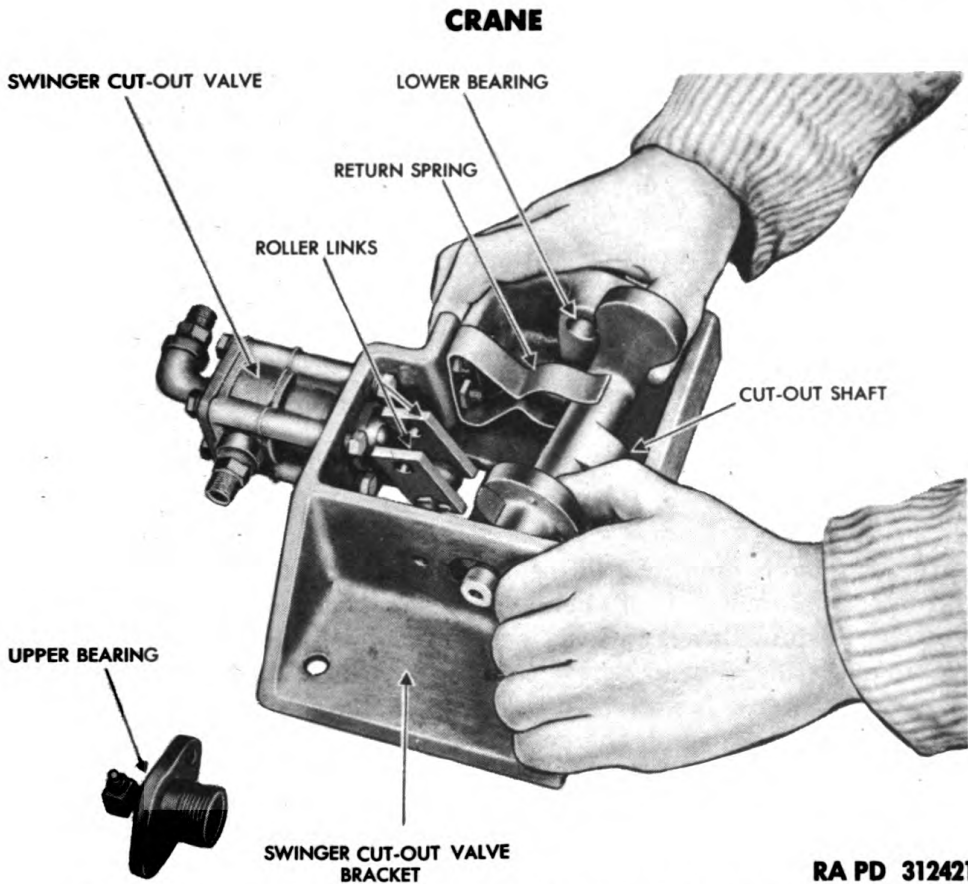

Figure 26 – Installing Shaft in Swinger Cut-out Bracket
(2) **DISASSEMBLE LINKAGE.** Remove two $\frac{1}{4}$ -inch bolts, nuts, and lock washers attaching linkage shaft upper bearing to swinger cut-out bracket. Pull bearing free of bracket, and lift out cut-out shaft. Remove two stove bolts and nuts attaching return spring to swinger valve bracket, and remove spring. Remove cotter pin and clevis pin, and lift out linkage roller. Remove $\frac{3}{8}$ -inch nut from outside of linkage bracket, and pry roller links and stud free of bracket (fig. 26).
(2) **ASSEMBLE LINKAGE.** Install roller link on stud, and install cotter and clevis pin. Install inside nut on stud, run through bracket, and install $\frac{3}{8}$ -inch nut on outside of bracket. Place cut-out valve in position, install three $\frac{1}{4}$ -inch cap screws and lock washers, and install one fillister-head screw and lock washer attaching valve to swinger bracket. Install return spring, and install attaching stove bolts and nuts. Position the cut-out shaft through the upper bearing opening in bracket, and slide the shaft into the return spring (fig. 26). Push the shaft into lower bearing, and install the upper bearing. Install upper bearing bolts, nuts, and lock washers. Place valve operating roller in links, and install roller pin and cotter pin. Lubricate cut-out shaft bearings through lubrication fitting. The shaft is drilled its entire length for lubrication of the lower bearing. Loosen roller link eye nuts, and aline roller between cut-out shaft and valve stem button. Tighten roller link nut securely.